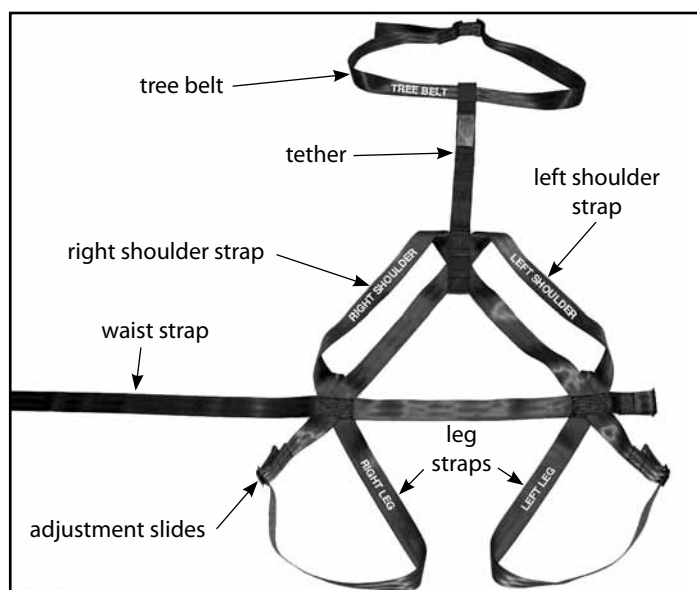

Figure 1
1. With the Full Body Harness (FAS) lying on the ground, familiarize yourself with all of its design and features. **SEE FIGURE 1.**